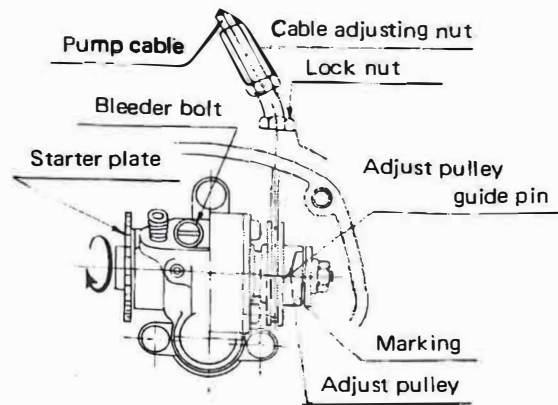
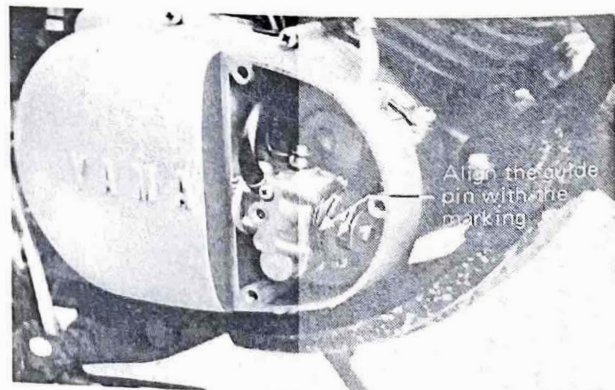

Fig. 2-3-7
Fig. 2-3-8
- Check the play of the throttle cable (A) by pulling the outer part of the throttle grip. If the play is excessive or insufficient, adjust the play with the adjustment screw.
- a. Adjust the pump cable so that the marking (arrow) on the Autolube pump adjustment pulley is aligned with the guide pin (see Fig. 2-3-8). Begin by fully closing the accelerator grip, then slowly turning it back again so that the slack in the throttle cable is completely taken up. Next, adjust the pump cable so that the marking on the pump adjustment pulley will be aligned with the guide pin, as shown in Fig. 2-3-7. The point of adjustment is at the end of the cable, just before it enters the case. Loosen the lock nut and screw the adjuster in or out, whichever direction is necessary to obtain the correct adjustment.